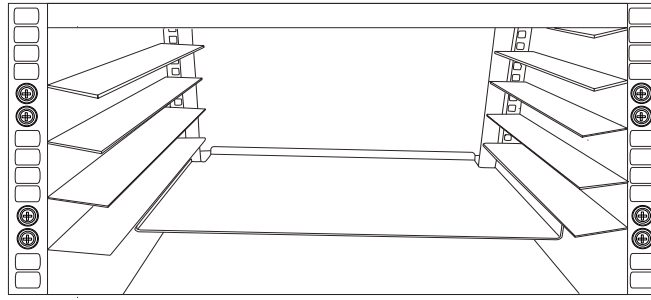

Figure 3-12 Installing the Tray
2. Tighten the screw to secure the tray. See Figure 3-12.